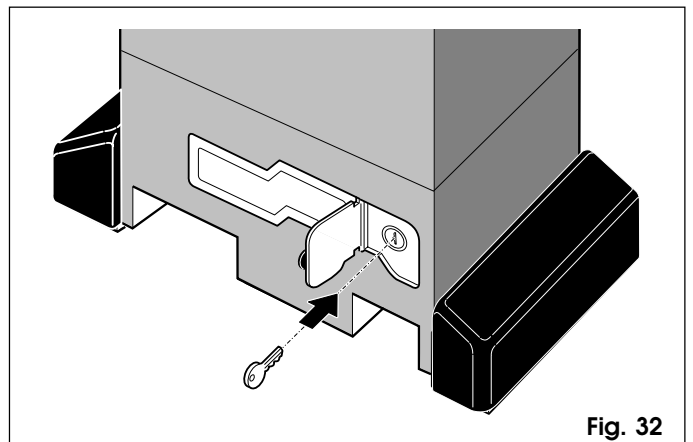

Fig. 32
- 1) Open the protective door and fit the supplied key in the lock (Fig. 32).